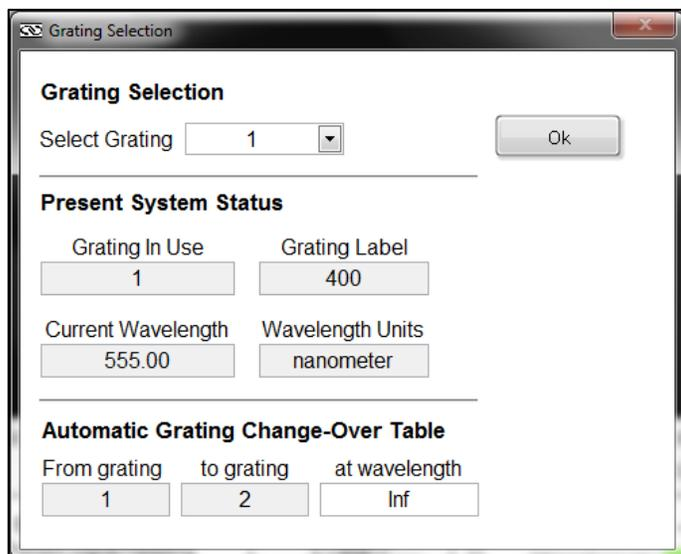
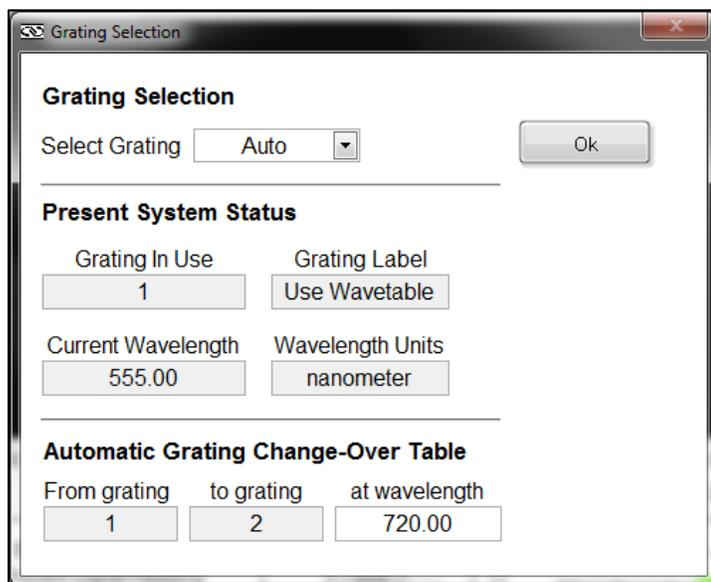

Figure 95: Selecting an Individual Grating.
Figure 96: Automatic Grating Selection.
To select gratings, go to the pulldown menu Monochromator → Gratings (Fig. 95). To select an individual grating, choose the grating position number corresponding to its installation location in the monochromator. Generally, the gratings are positioned such that the one with the lowest blaze (i.e. peak efficiency) wavelength is in the first position. The locations are noted in the calibration parameters document provided with the instrument. To automatically change gratings during a scan, select “Auto” instead of a specific grating number (Fig. 96). Then fill out the automatic changeover wavelengths. The Cornerstone 130(B) may hold up to two gratings, allowing one automatic changeover wavelength to switch between them. The other instruments may hold up to four gratings.